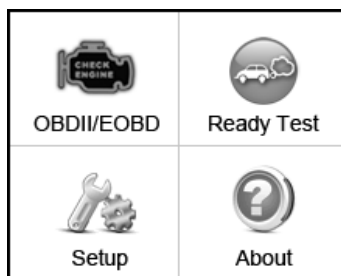

Figure 5.1
- Use the **SCROLL** button to select **Ready Test** from **Main Screen** (Figure 5.1), and press the **ENTER/Exit** button.